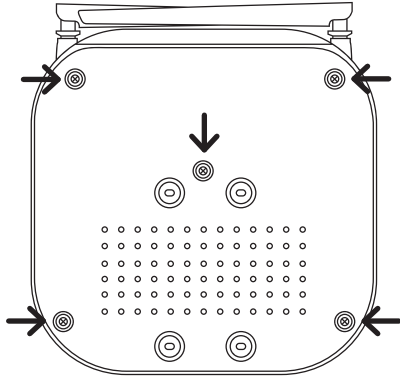

Fig.1
- Unscrew 5 screws at the bottom of the device - Fig. 1.